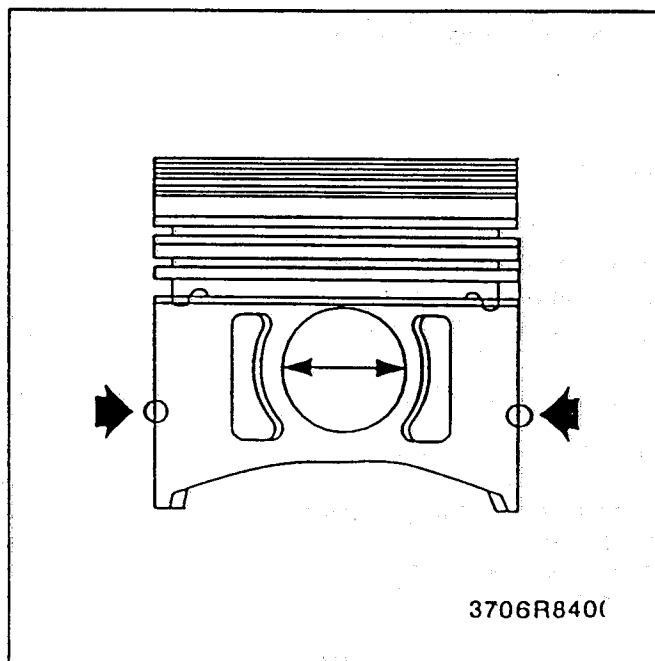

Figure 44—Piston Diameter Measurement
Measure (Figures 44 and 45)
- A. Cylinder bore diameter. Use a telescoping bore gage, located 65 mm (2 1/2 inches) below the top of the cylinder bore (figure 44).